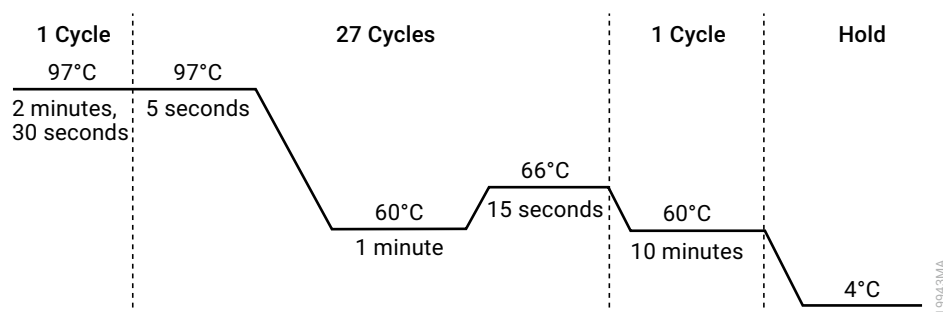

Figure 31. Thermal cycling protocol for the ProFlex® PCR System.
2. Select and run the protocol provided below and in Figure 31. The total cycling time is approximately 65 minutes.